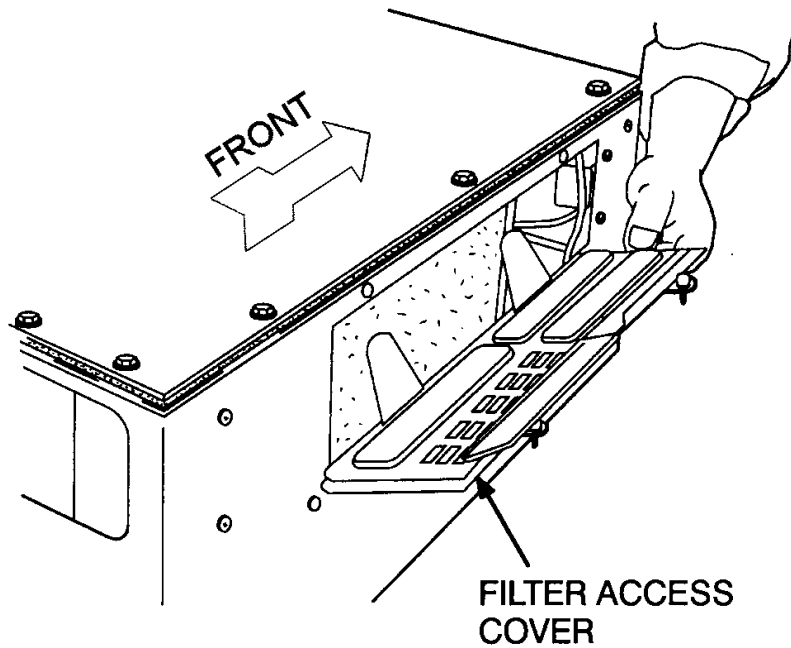

Figure 4 Filter Access Cover
1. Unsnap fasteners that hold filter-access cover to side of Blend-Air unit (Figure 4).
2. Re-install the filter access cover on the outside of the Blend-Air unit. Push in fasteners until they snap into place (Figure 4).